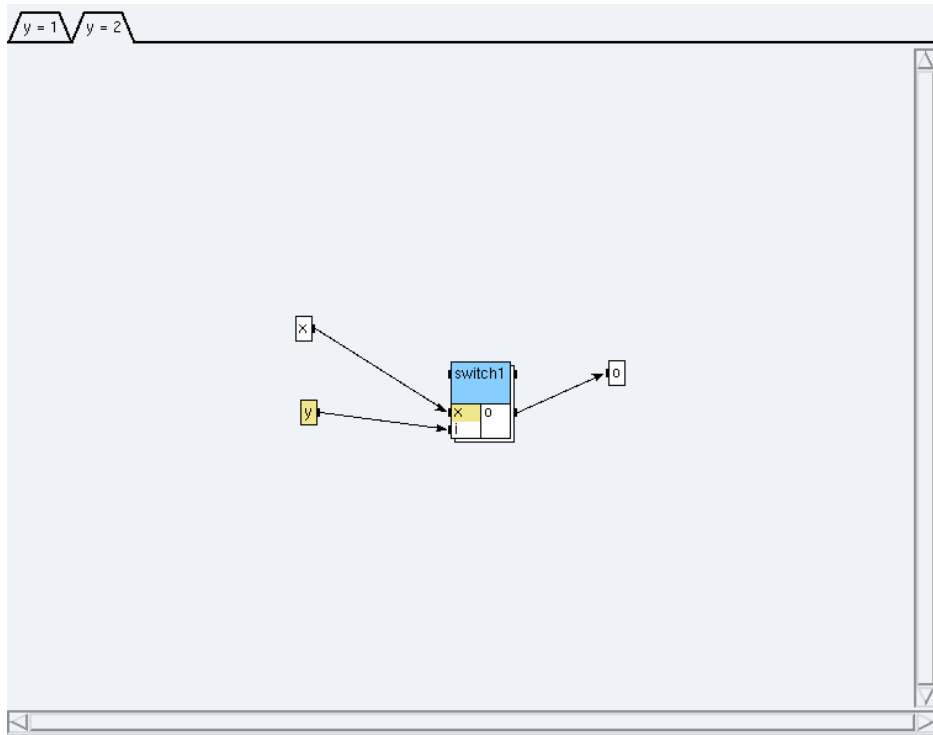

Figure 5.8: Condition $y=2$
- click on the condition `y=2` (cf. figure 5.8) and create a reference `switch1` to the definition **switch1**;